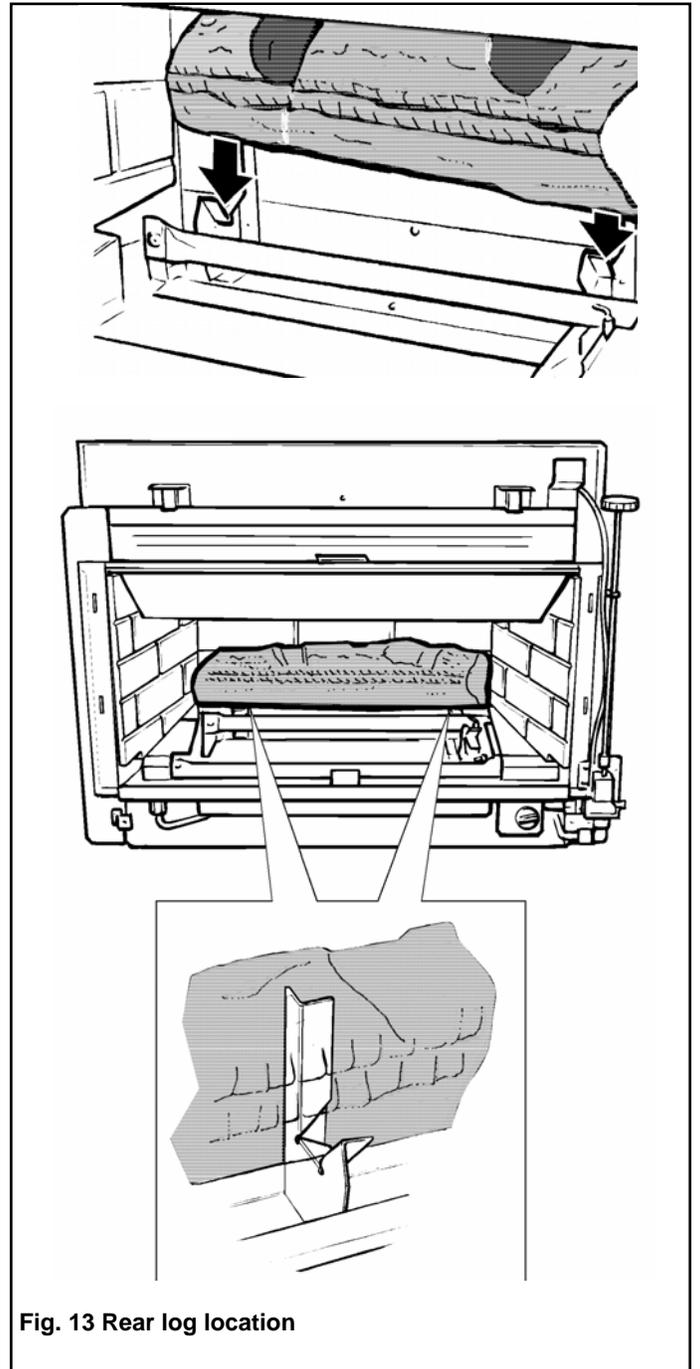

Fig. 13 Rear log location
5.4.3 Install the rear log in the two supports at rear of the firebox. Make sure that the log is fully located in the "V" forms of the supports (fig. 13).